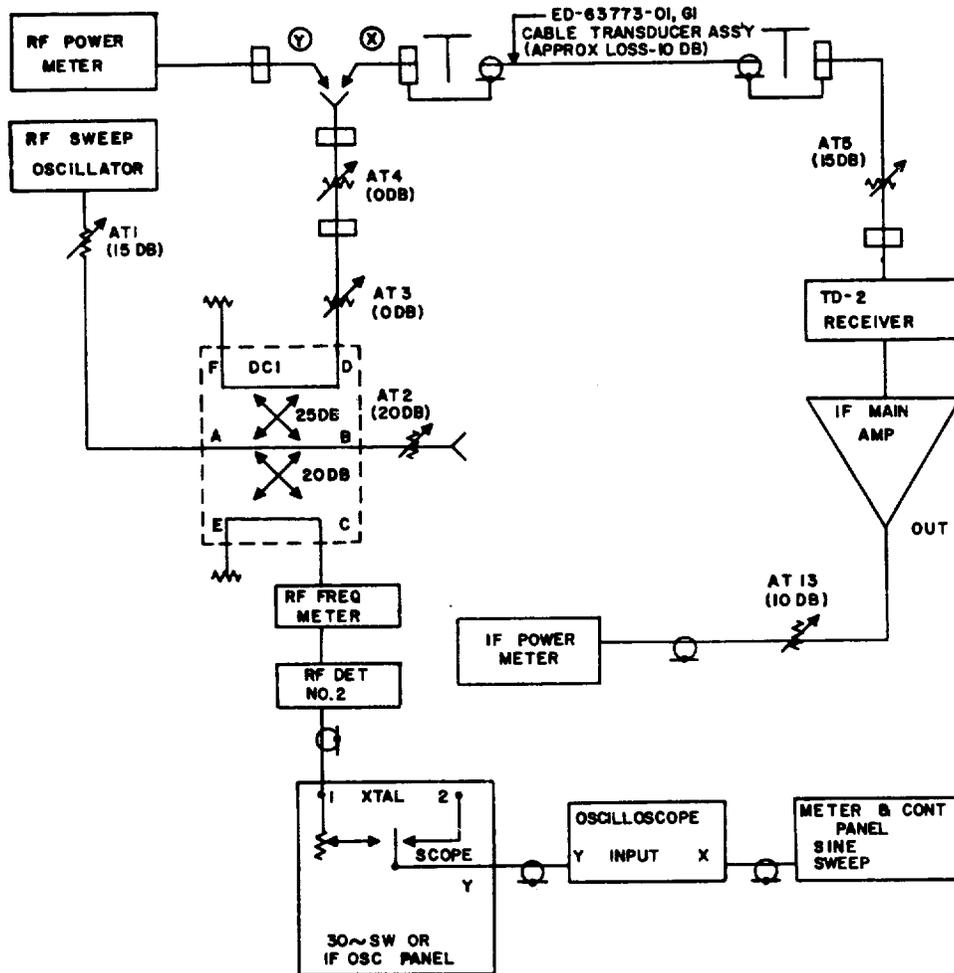

Fig. 10 – Calibration of TD-2 Receiver — Using J68340A Test Bay
- (1) The TD-2 radio receiver is calibrated for an IF output of +10 dbm at an RF input of -35 dbm using either the J68340A test bay or the J68345A test set, Fig. 10 or 11.
- (1) Set attenuators as follows: (Reference, Fig. 10)
- (2) Connect the test circuit as shown in Fig. 10, Y option. Adjust the RF sweeper to the normal frequency of the TD-2 receiver. Turn the sweep off and verify that rest frequency is within 3 mc of the receiver normal frequency. Readjust if necessary.
- (3) Adjust AT1 for 0 dbm on the RF power meter. Set AT4 to 10 db. (If the loss in the ED-63773-01, G1 cable assembly is not exactly 10 db, adjust AT4 accordingly to produce a -35 dbm signal at the input to the receiver.)
- (4) Set the receiver CONT switch to MAN. Connect the test circuit as shown in Fig. 10, X option. Adjust the MAN GAIN control for an IF power output of 0 dbm into the IF power meter.
- (5) Disconnect AT5 from the TD-2 receiver. Restore the normal waveguide connections to the receiver input.